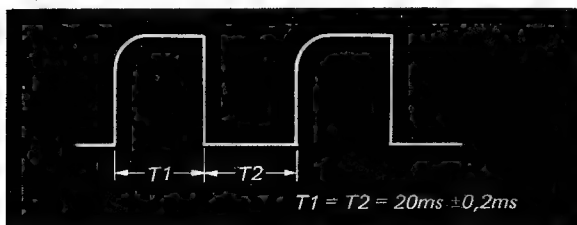

Fig. 7-2.
2. Adjust R129 so that intervals T1 and T2 are 20 msec \pm 0.2 msec as shown in Fig. 7-2.